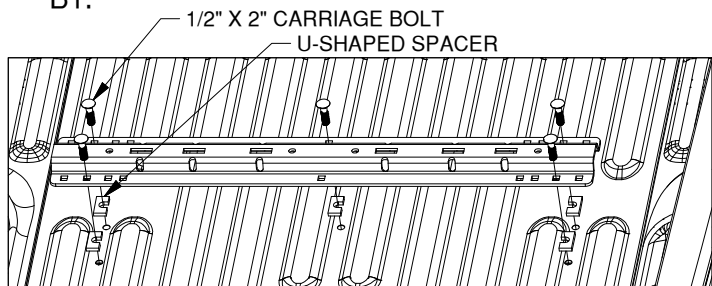

Figure B1: View looking into truck bed from rear of truck.
- 1. Position the forward mounting rail.** Re-position the forward mounting rail over the drilled 9/16" holes in the bed. Place a 1/2" x 2" carriage bolt through the mounting rail and into each of the 5 drilled locations. Place a U-shaped spacer between the bed and the mounting rail at the five drilled positions, see Figure B1.